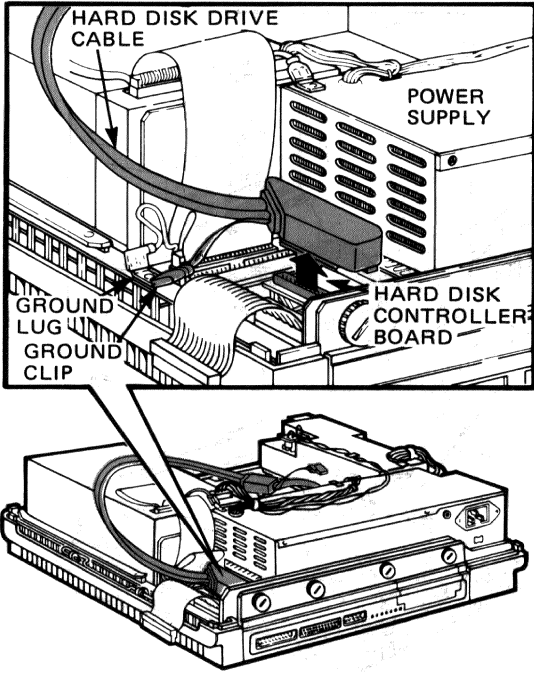

Figure 5-35 Unplugging Hard Disk Drive Cable from Controller
8. Unplug the hard disk drive cable from the hard disk controller board (Figure 5-35).